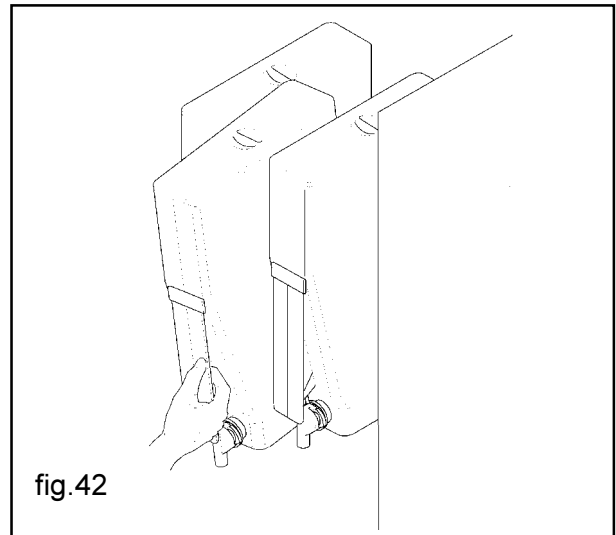

fig.42
- Remove all the product containers from the distributor (fig.42).